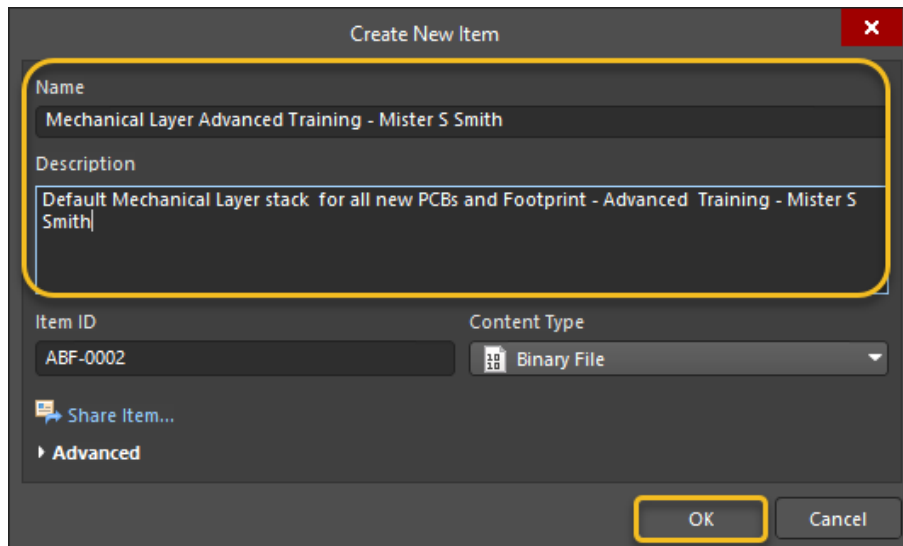

Figure 14. New mechanical Layer for the Workspace
56. In the dialog *Create New Item* (Figure 14):